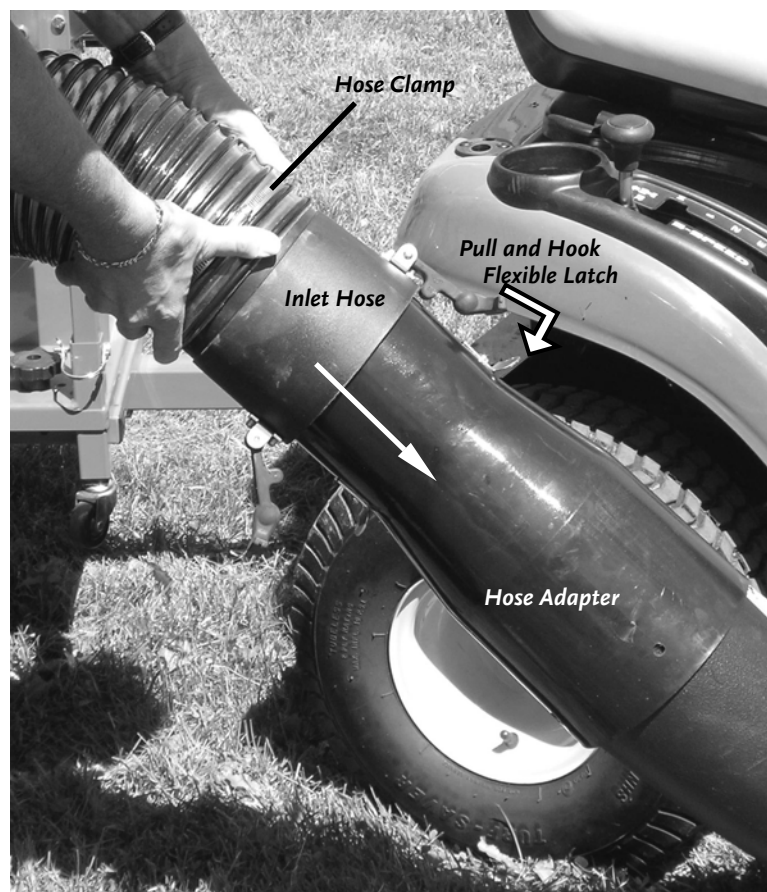

Figure 16
1. Connect the hose from the Blower Inlet to the Hose Adapter by aligning the two flexible latches and slipping the end of the hose over the Hose Adapter (**Figure 16**).
2. Pull and hook the two flexible latches into place (**Figure 16**) to secure the hose.
3. Make sure that the Blower Inlet Vacuum Hose is securely attached to the Hose Adapter (**Figure 16** on page 23).